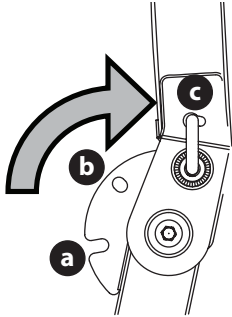

Figure 5
2. Move the ROPS into the desired position (Figure 5).
**NOTE:** The three positions are TRANSPORT (a) position, TRANSPORT WITH BAGGER (b) position and into the OPERATION (c) position (Figure 5).